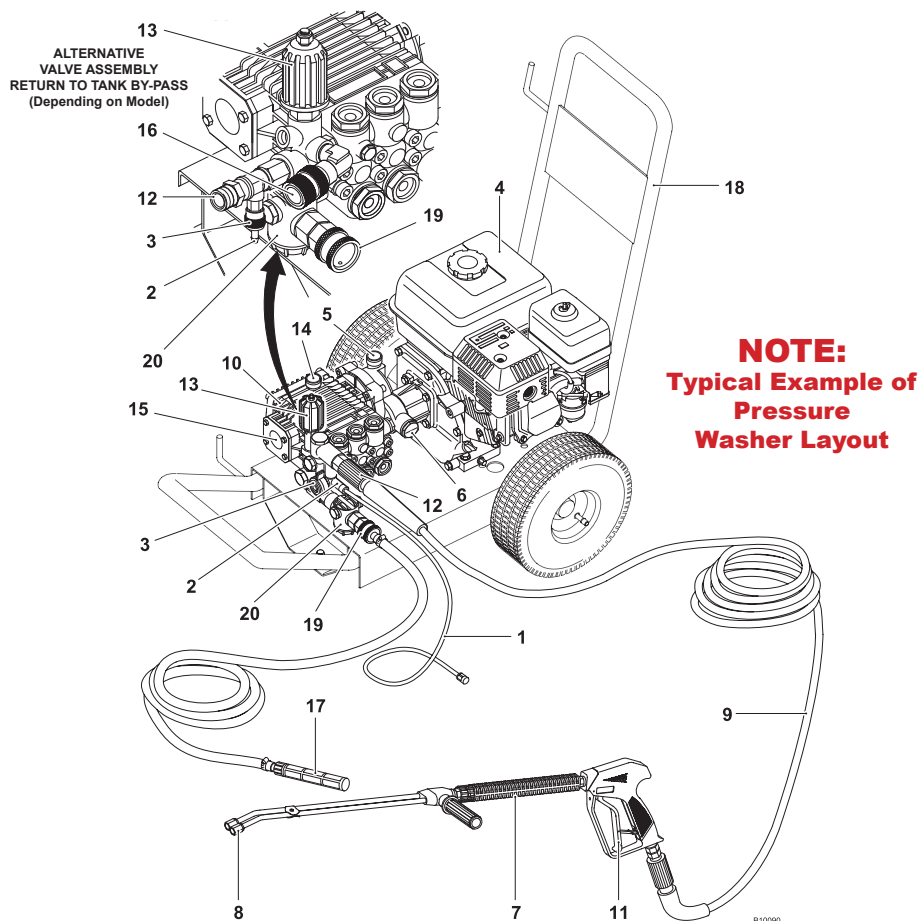
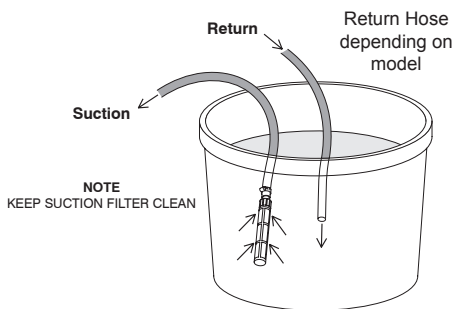

Fig 2 Description of main features
Fig 4. Submerge the suction hose.
4. Description of Main Features (fig 2)
- 5.5 Connect the water return line to its connector and place the other end in the water supply container. (Bypass to tank models only) (Fig 2 item 16 & Fig 4).
- 5.6 Submerge the opposite end of the suction hose and its suction filter in a suitable container containing the water supply (fig 4). Ensure the filter is always kept below the water level.
6.2.3 Squeeze the trigger to start the high-pressure jet, proceed to wash the object. Adjust the working pressure by turning the pressure regulator knob + or - to suit the application (fig 2, item 13). Never direct the high-pressure stream at the engine or pump as this could cause irreparable damage.
Attach the detergent induction pipe to the power washer, (fig 2, item 1) placing the opposite filter end into the detergent container. Select the low pressure setting on the lance, (see appendix 1 for details of your lance) and spray the water/detergent mixture onto the object being cleaned. Leave the detergent for the period recommended by the chemical manufacturer allowing it time to work, washing off with clean water. The volume of detergent used can be controlled by means of the regulator on the suction valve (see fig 2. item 3).